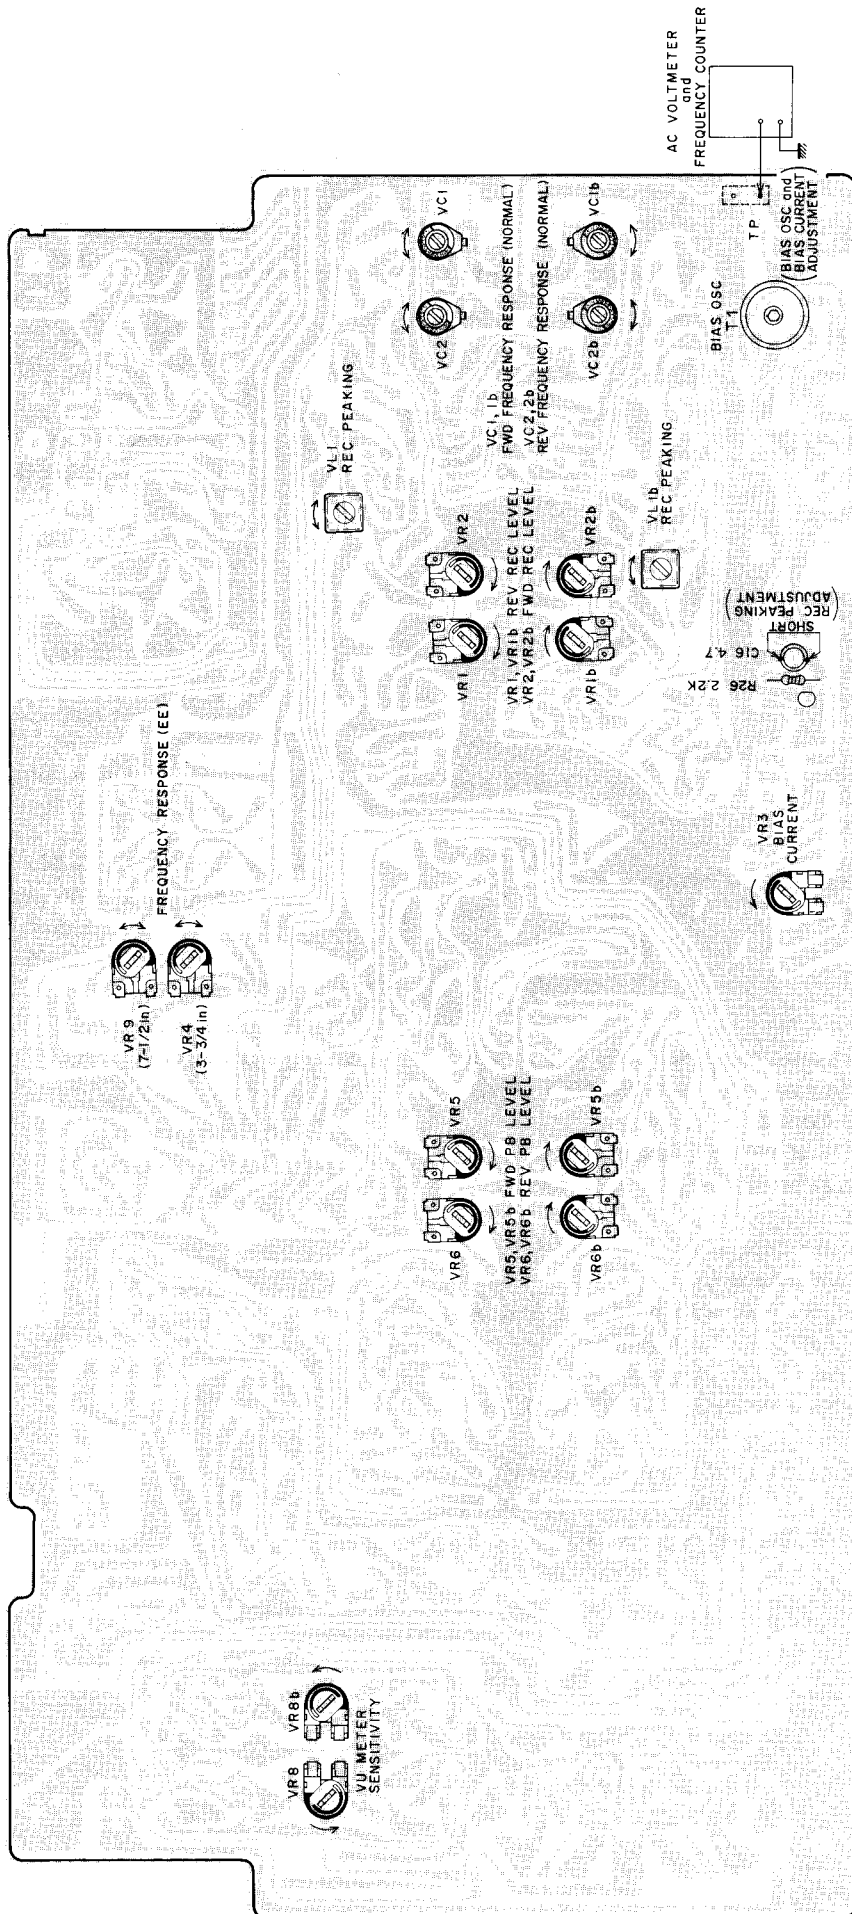

Fig. 16 Pre Amp P.C Board T1009A510A
- Stop Recording bias oscillator while making Rec Peaking adjustment (Refer to Fig. 16).